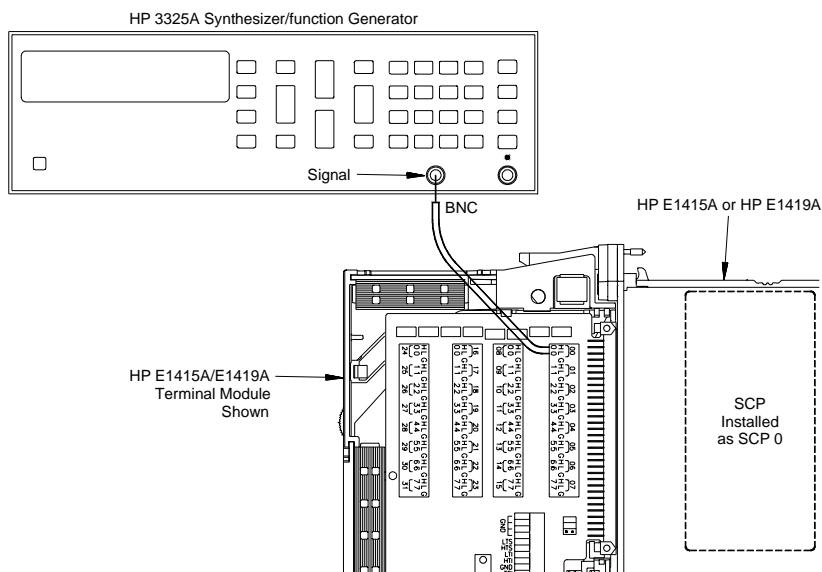

Figure 2-27. Frequency Counter Connections
- [a] Connect wiring from terminal block to frequency generator (see Figure 2-27)